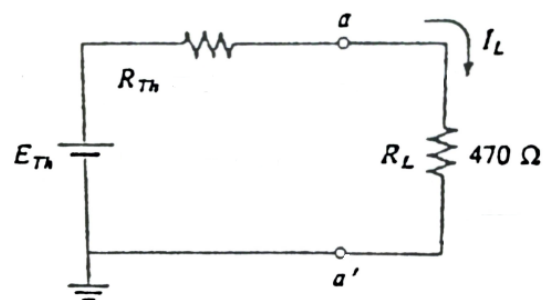

FIG 4.2
- (b) Insert the values obtained in (a) in the schematic of fig 4.2 and calculate the load current.